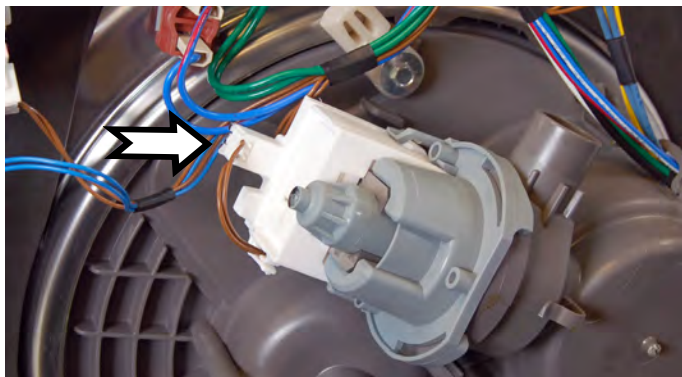

Figure 2
3. Unplug the wire harness connected to the drain pump, (see Figure 2).